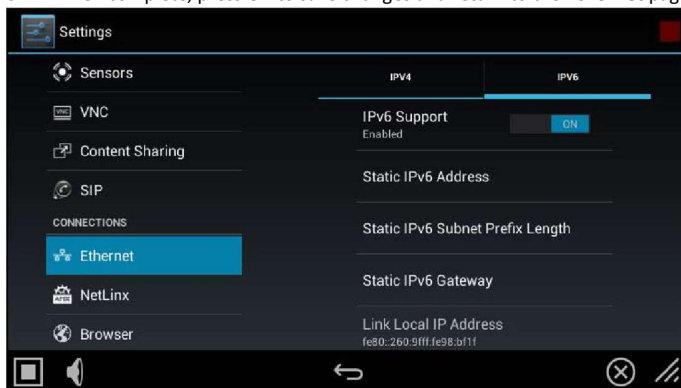

FIG. 60 Ethernet page (IPv6 tab)
6. When complete, press **OK** to save changes and return to the Ethernet page - IPv6 tab (FIG. 60):